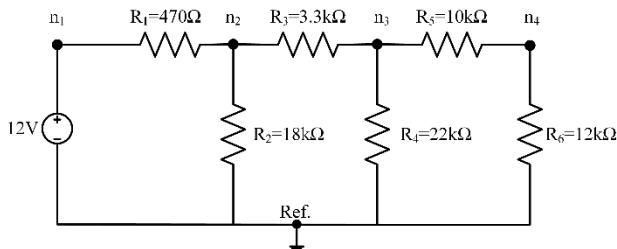

Figure 10.
7. Calculate all node voltages and mesh currents in Fig. 10 using nodal and mesh analysis and write your results into related fields in Table 4.
8. Determine voltages across each component in Fig. 10 using calculated node voltages in the previous question and write them into related fields in Table 4.
9. Show that Kirchhoff's Voltage confirms your calculations for Fig. 10.
1. Build the circuit given in Fig. 10, measure voltages and currents given in Table 5 using a multimeter and write them in related places in Table 5. Write expressions for the generated and dissipated powers and calculate them.